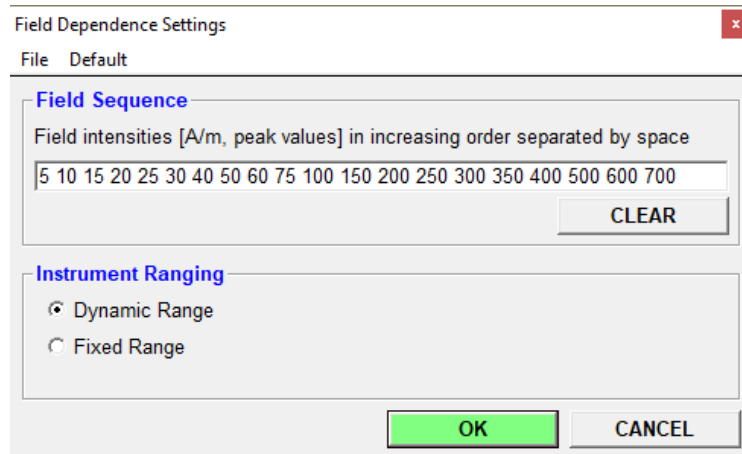

Figure 9: A typical example of the Field Dependence Settings window.
3.1.1.6.2 Temperature Rate In High Temperature Mode, the specimen is heated at a controlled rate to the maximum temperature **Tpeak** and then cooled down at the same rate to the minimum temperature **Tend**. There are four temperature rates available (Figure 9). Default temperature rate (**Fast**) is suitable for most rocks and environmental materials. For special studies, slower temperature rates (**Slow**, **Medium**) can be used but one must realize that such measurements take correspondingly longer time (see Table 4).